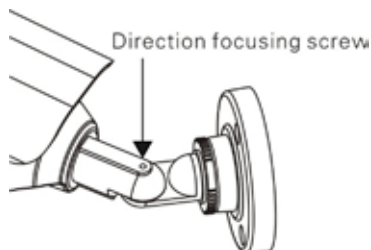

Figure 5-3
4. Loosen the direction focusing screw, position left-right up/down to adjust the angle of the camera that the camera faces the monitored area, then fix the direction focusing screw, as shown in Figure 5-3. Adjust the camera direction.